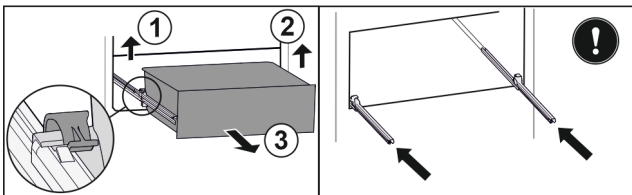

Fig. 186
- ▶ Lift left clamp and simultaneously pull drawer forwards on the left. Fig. 186 (1)
- ▶ Lift right clamp and simultaneously pull drawer forwards on the right. Fig. 186 (2)
- ▶ Remove drawer to the front. Fig. 186 (3)